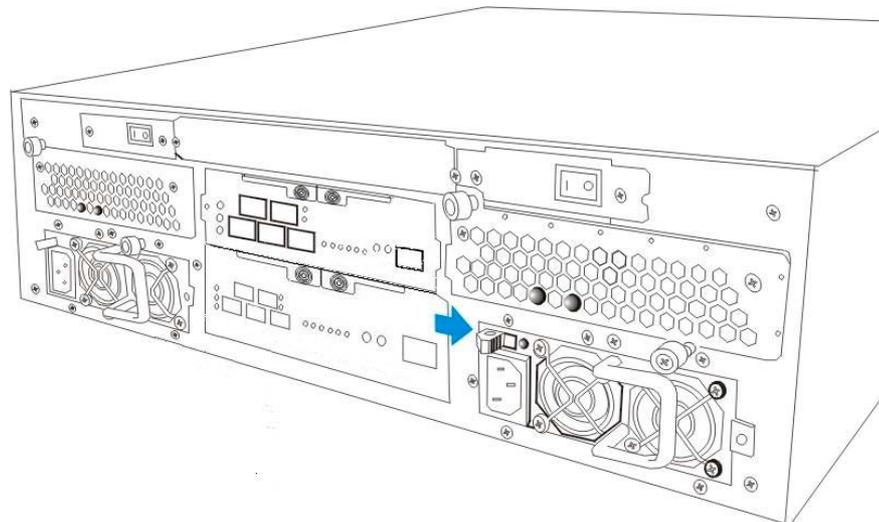

Figure 5-6: Dislodging the PSU
Step 4. Locate the clip at the top left-hand corner of the PSU. This clip secures the PSU into the subsystem enclosure. To remove the PSU, *push this clip towards the right*. (See *Figure 5-6*)